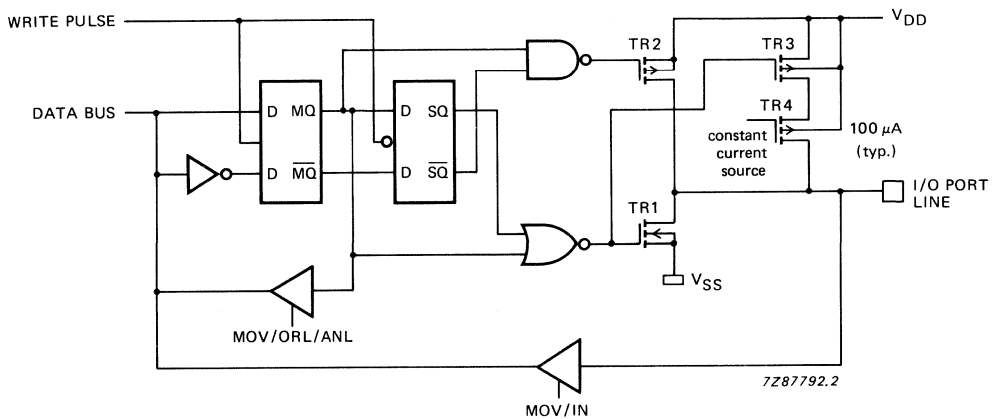

Fig. 12 Standard output with switched pull-up current source.
Figure 12 shows the quasi-bidirectional I/O interface with push-pull output and switched pull-up current source.
1. **STANDARD PORT:** quasi-bidirectional I/O with switched pull-up current source of 100  $\mu\text{A}$  (typ.) and P-channel booster transistor TR2. TR2 is only active during 1 clock cycle (Fig. 12).